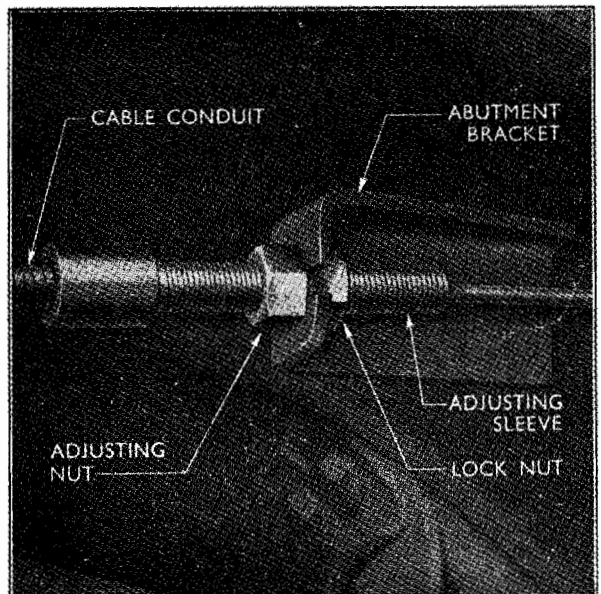

Fig. 4
Application of the handbrake lever places the cable in tension, directly applying the brakes on one rear wheel. At the same time, due to this action, the outer conduit is placed in compression thus pushing on the flexibly mounted slotted equaliser. The rod running between the equaliser and the other rear wheel brake is therefore subjected to the same tension thus applying the brakes on that rear wheel, giving an equal brake action on both sides of the car. Towards the rear of the drive shaft tunnel an abutment bracket is provided to anchor the forward end of the brake cable conduit to provide a means of adjustment for the linkage, see Fig. 4.
2. Unscrew the locknut securing the brake cable conduit to the bracket in the drive shaft tunnel, see Fig. 4. Pull the conduit adjusting sleeve to the rear and slide the inner cable out of the bracket.